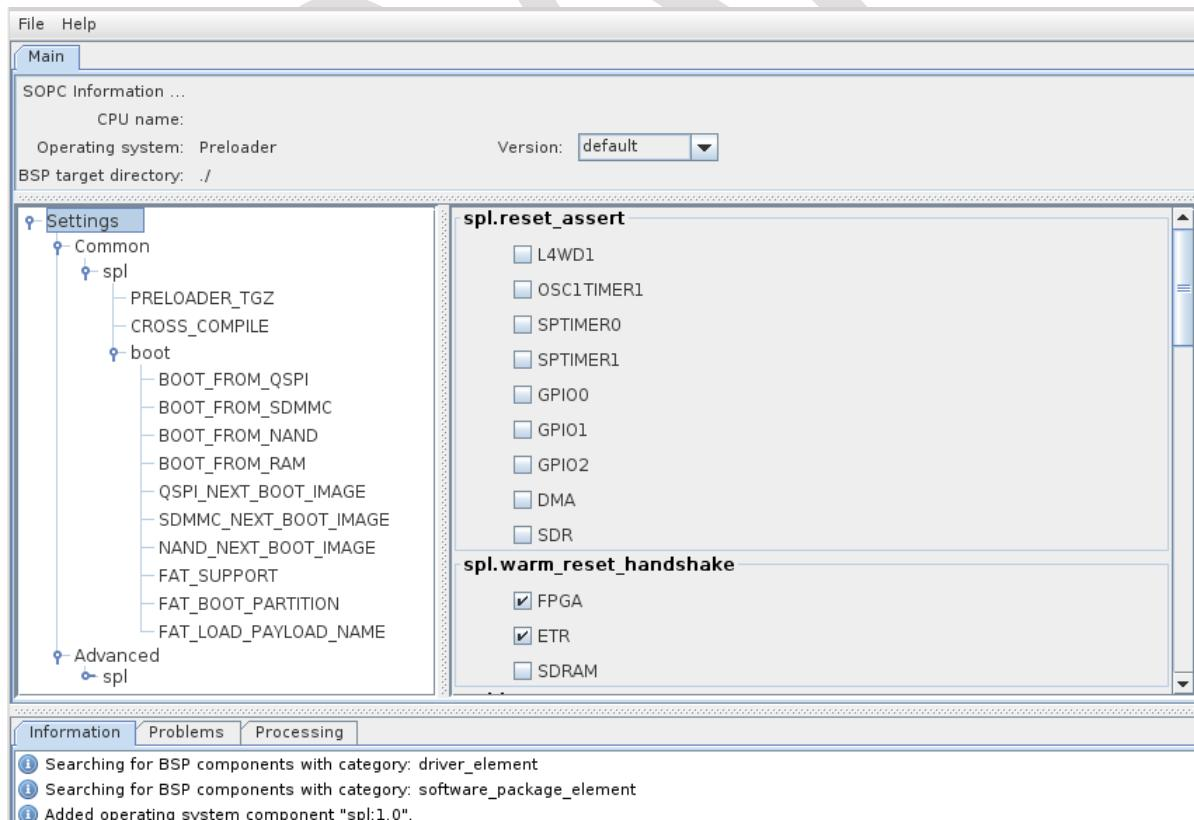

Figure 8-24. Preloader Settings Dialog
- c. Press the “OK” button. You should then arrive on a page with many settings, as shown on Figure 8-24. Take some time to read through them to see what the preloader has the ability to do.
- On the main settings page of Figure 8-24, we will only need to modify 3 parameters for our design.